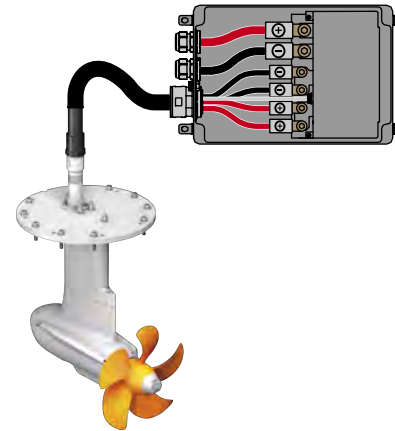

Fig. 53: Cabling of electronics box
1. Release the screws (1) of the electronics box in order to open it.
4. Connect the power cable to the respectively marked terminals (red = +, black = - ; torque 10 Nm), **see "Fig. 53: Cabling of electronics box"**.
5. Connect the motor cable to the motor control connection (6).